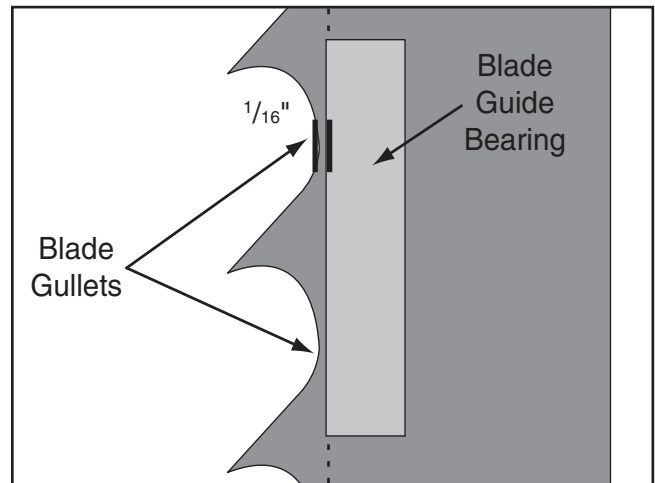

Figure 35. Lateral adjustment of blade guides.
5. Rotate the lower knurled knob to position the blade guides so the edges of the bearings are $\frac{1}{16}$ " behind the blade gullets, as illustrated in **Figure 35**.